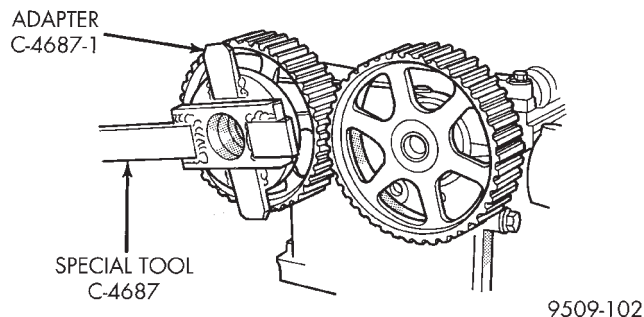

Fig. 61 Camshaft Sprocket—Removal/Installation
(1) Remove front timing belt cover and timing belt. Refer to procedure outlined in this section.
(2) Hold camshaft sprocket with Special Tool C-4687 and adapter C-4687-1 while removing center bolt (Fig. 61).
(3) Install camshaft sprocket and tighten center bolt to 101 N·m (75 ft. lbs.) (Fig. 61).